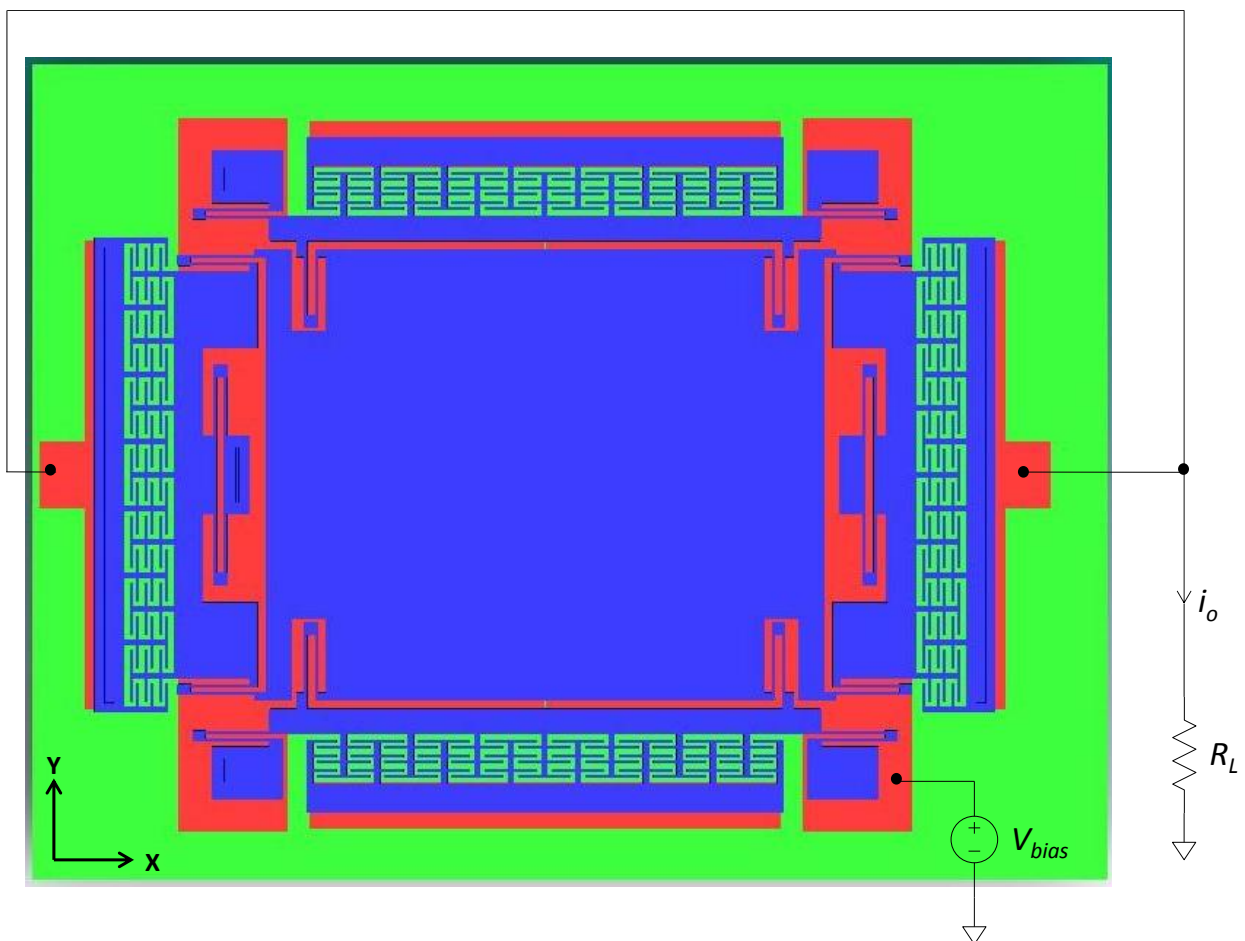

Figure 9 – Top view of accelerometer with circuit connections for Problem 3
3. Hook-up the accelerometer as shown in Figure 9, with the x -direction electrodes shorted and connected to an output resistor R_L and a DC bias V_{bias} of 20V applied to the structure.